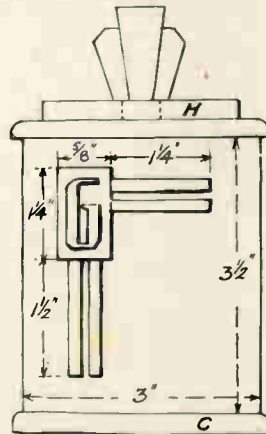

Fig. 2—Front elevation with outlines of decoration
The floor of the box (C) is next cut and fixed on. This measures  $3\frac{1}{2}$  ins. by  $3\frac{1}{2}$  ins., and its four top edges are rounded as seen in Fig. 2. In fixing on the floor see that an equal margin appears on all four sides of the box. Here some thin nails or fret pins will be required, because of gluing on to the end grain of the sides of the box.
The suggested measurements of the overlay bearing the monogram are given in Fig. 2. The whole may be cut in wood or painted on as advised in the early part of this article.